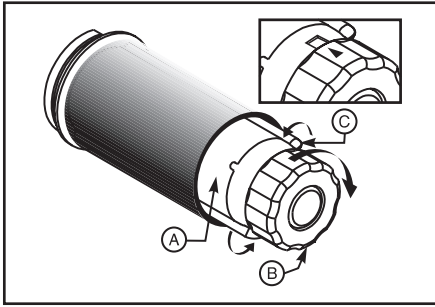

Figure 9
5. Before wrapping the ribbon around the Ribbon Take-Up Spindle, ensure that the arrow on the knob aligns with the indented notch (see inset, Figure 9).
Refer to Figure 9.